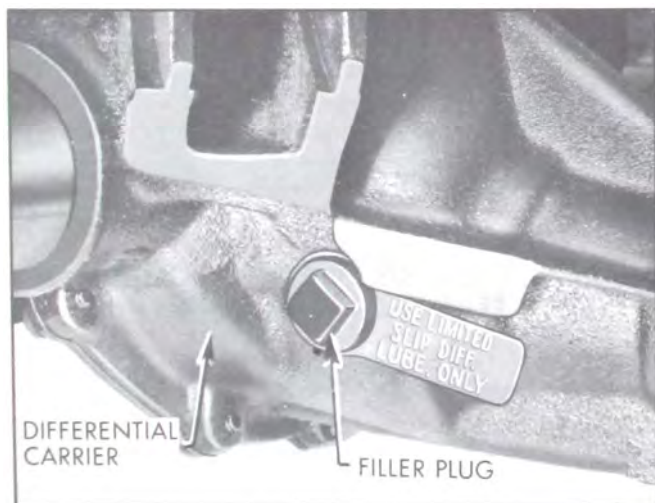

Figure 1-8—Differential Filler Plug
Level should be maintained at filler plug opening to 1/4" below by adding SAE 90 Multi-Purpose Gear Lubricant (MIL-L-2105-B). See Figure 1-8. When car is operated in temperatures continuously below -10°F., use SAE 80 Multi-Purpose Gear Lubricant.
5. Positive Traction Differential Rear Axle. Identified by embossed tag around the differential filler plug, "Use limited slip differential lube only." Check lubrication level after allowing time for lubricant to settle. Clean the surrounding area before removing filler plug. Level should be maintained at filler plug opening to 1/4" below by adding lubricant conforming to Buick specification #723 only, as specified in paragraph 1-7. See Figure 1-8.